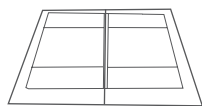
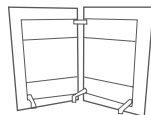

Figure 1A
Figure 1B
- 1** Carefully place the base flat (Figure 1A) or in a side clamshell position (Figure 1B).